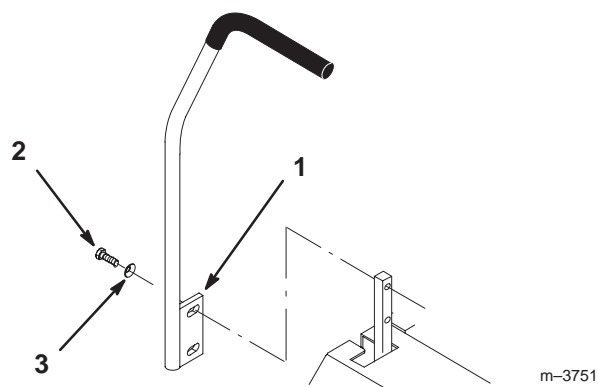

Figure 4
1. Remove the (4) 3/8-16 x 1” (26 mm) bolts and (4) 3/8” spring washers which attach the motion control levers to the control arm shafts for shipping (Fig. 4).
2. Place the levers (with the mounting plate towards the rear) on the outside of the control arm shaft and secure with (4) 3/8-16 x 1” (26 mm) bolts and (4) 3/8” spring washers (Fig. 4).
4. Align the front/rear position of the levers, with each other, in the neutral position. Loosen hardware and adjust by sliding/tilting the lever(s) forward or backward until properly aligned (Fig. 4).